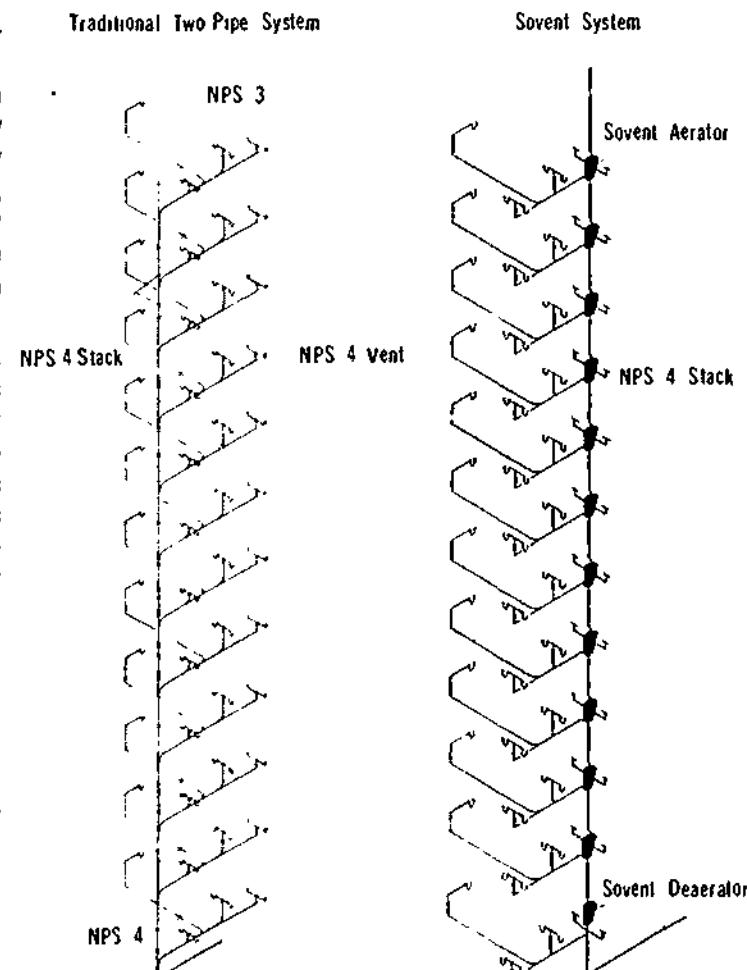

Figure 37-1. Comparison Between Traditional Two-Pipe System and the Sovent System
2. The copper Sovent system has certain physical advantages that lead to cost reductions. Its basic advantage is the elimination of separate vents for fixtures, which markedly simplifies the layout. (See Figure 37-1.) The task of cutting and drilling walls and floors is minimized by the absence of vent lines and the reduction in the number of stacks. The sizes of chases can be reduced and there is greater facility in the placement of other services and duct work.